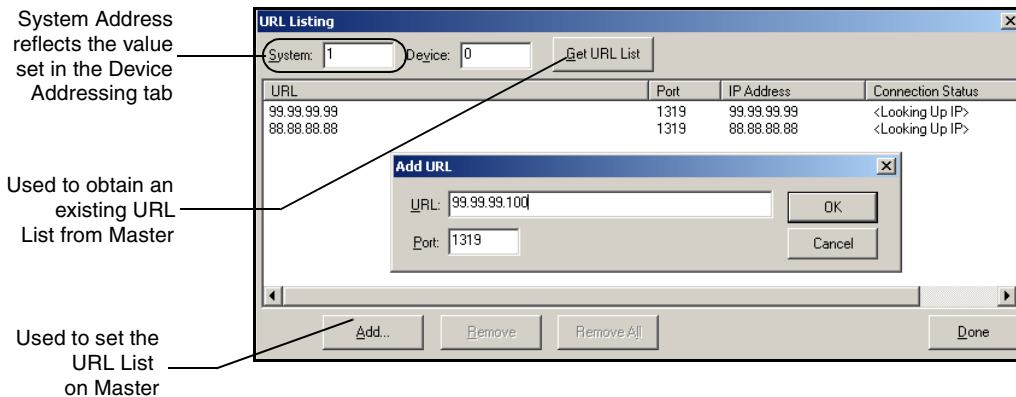

FIG. 42 URL List dialog
6. Select **Diagnostics > URL Listing** from the Main menu (FIG. 42).